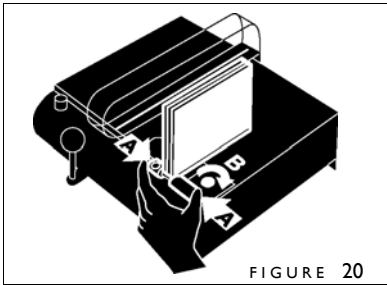

FIGURE 20
2. After it has cooled, place your bound book block between the Book Thickness Rings (Figure 20). Push the two rings together (A) and tighten the Book Thickness Lock knob (B). Remove your book block.